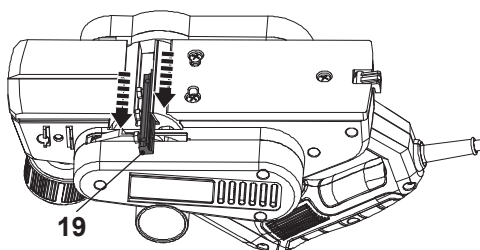

Fig. 17
1. Press the guard (24) down and hold it in position.
2. Slide the blade (19) between the blade fixing element (23) and roller (21) (Fig. 17). Be sure the orientation of the blade is correct and it is positioned centrally.